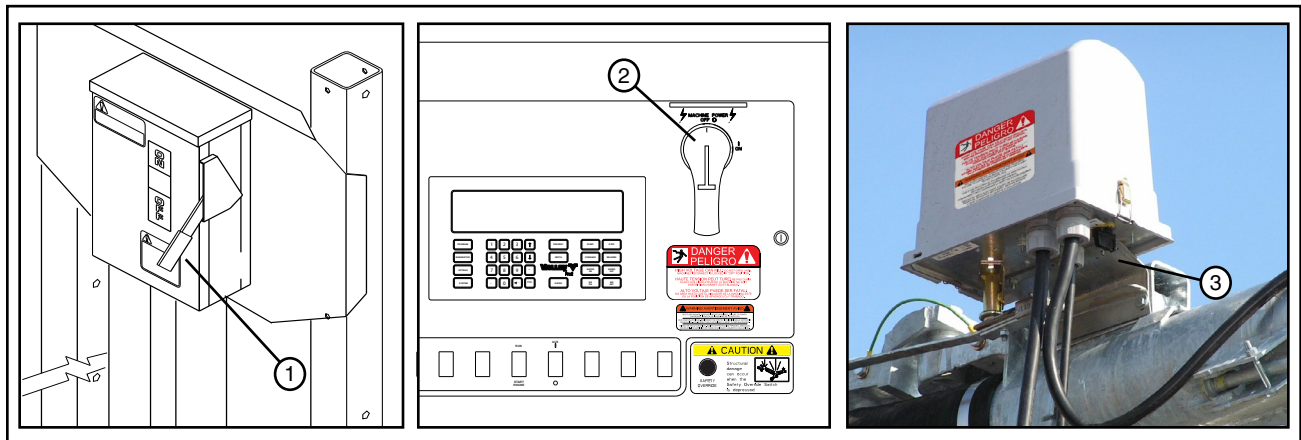

Figure 23-1 1. Main Service Disconnect Switch
- Main Service Disconnect Switch from public power to the control panel. See figure 23-1.
- Control Panel Main Disconnect Switch. See figure 23-1.
- Any Tower Box Disconnect Switch. See figure 23-1.